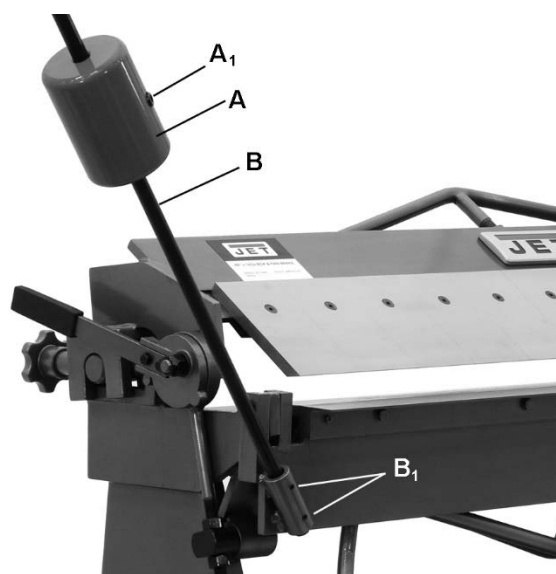

Figure 2
- 4. Install counterweight rod (B, Figure 2) into left hinge, and tighten set screws (B₁). Slide counterweight (A) onto rod and tighten screw (A₁).
To adjust counterweight, back out screw (A₁, Figure 2) and slide counterweight to desired position. Retighten screw.